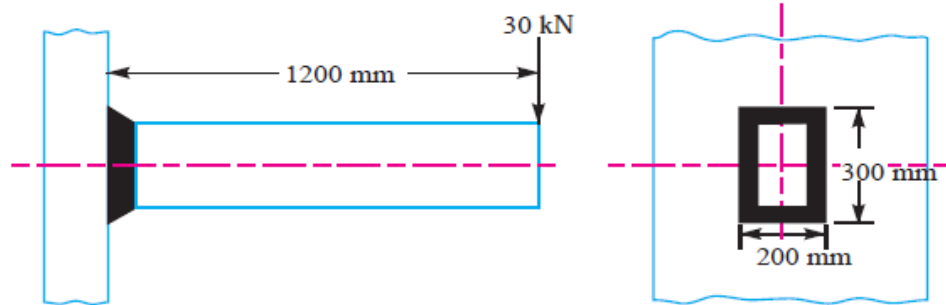

Figure Q3 (b)
- (b) A rectangular cross-section bar is welded to a support by means of fillet welds around the circumference of the beam as shown in **Figure Q3 (b)**. The permissible shear stress in the weld is limited to 80 MPa.